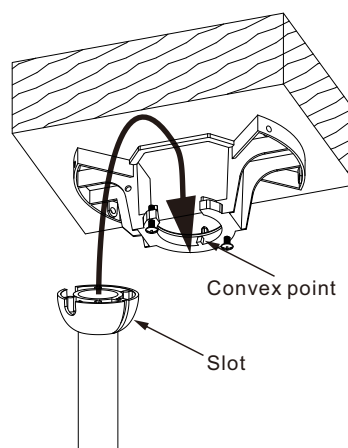

Figure 14
Step 9. Place the downrod ball into the hanger bracket socket. (Fig. 14) And rotate fan and downrod assembly until tab on bracket lines up with slot on ball.